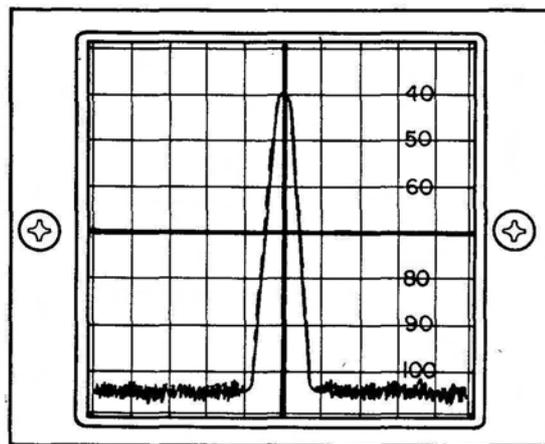

Figure 3-21 -40 dBm BFO Signal Measured Along dB Scale of CRT
24. Set HI LVL/ μ V x 100/NORM Switch (3) to " μ V x 100" and verify that the displayed signal on CRT Display (36) is -40 dBm (± 9 dB) in amplitude (see Figure 3-21).